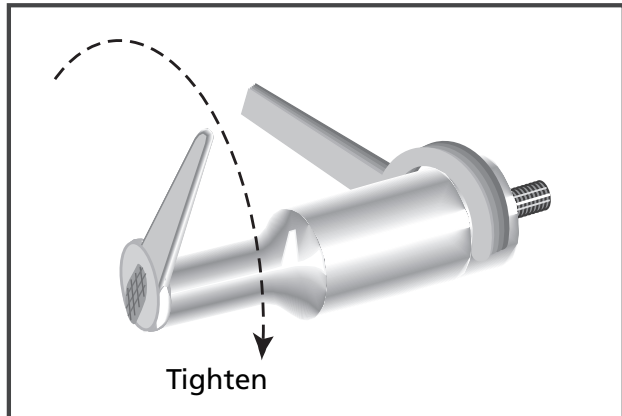

Figure 6-3 Replaceable Tip Installation
3. Thread the tip into the horn and tighten to the torque specifications below using an open end wrench of the correct size to fit the wrench flats of the tip. This is illustrated in Figure 6-3. If necessary, use a spanner wrench (on horns with spanner wrench holes) or an open end wrench (on horns with wrench flats) to keep the horn from turning in your hand. A canvas strap wrench is permissible if it does not gouge or scratch the horn.